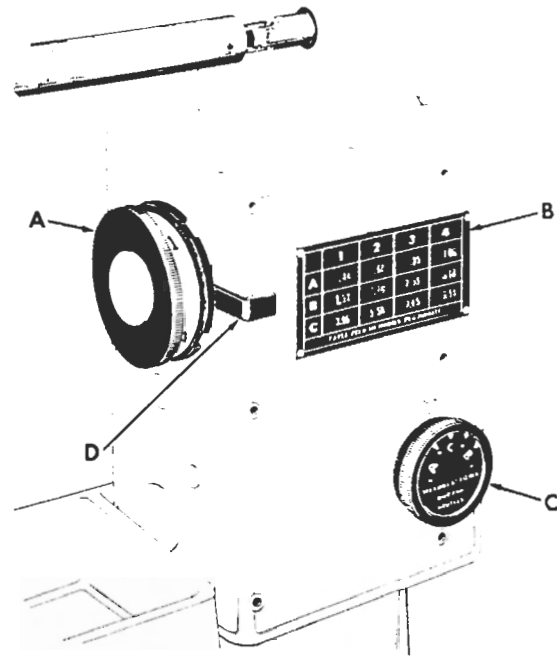

Figure 8
1. Select feed desired from chart (B, fig. 8).
2. Press in index plunger (D) and turn tumbler index knob (A) to position indicated on chart.
3. Position shifter handwheel (C) -- dots (.) between letters are neutral positions.